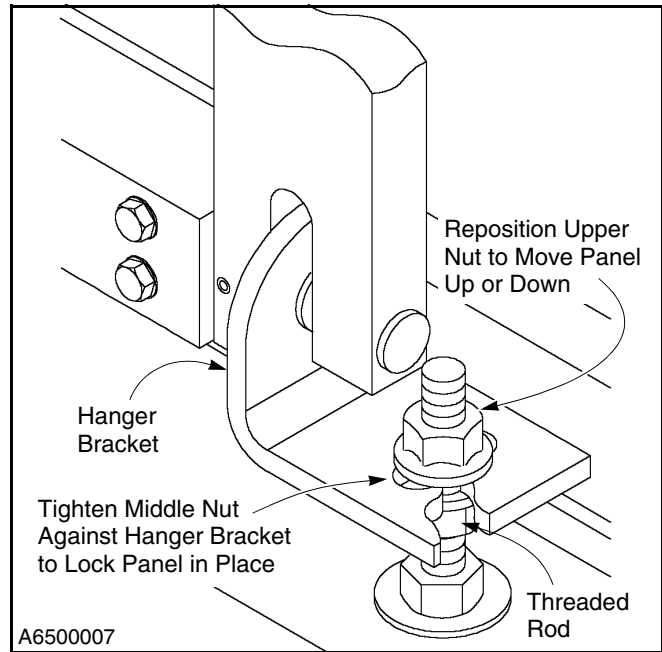

Figure 37
If vertical adjustment to either panel is necessary, adjust the upper nut on each pair of threaded rods for that particular panel. Adjust both nuts an equal amount in the same direction to ensure the panel remains level. (See Figure 37.)
6. On bi-parting doors, to decrease the gap at the bottom, turn the upper nut on the outside pair of hanger brackets counterclockwise. (The idea here is to lengthen the threaded rod between the panel and the hanger bracket.) Be sure to turn the outside nuts an equal number of times to angle the panels. (See Figure 37.)
On one-way doors, to decrease the gap at the bottom, turn the upper nut counterclockwise on the hanger bracket nearest the trailing edge side of the panel. (The idea here is to lengthen the threaded rod between the panel and the hanger bracket.) (See Figure 37.)